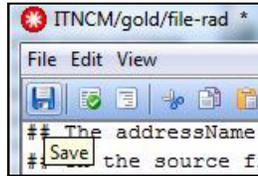

Figure 4-9 Saving the RAD
6. When finished editing, save the RAD by clicking **File** → **Save**, as shown in Figure 4-9.